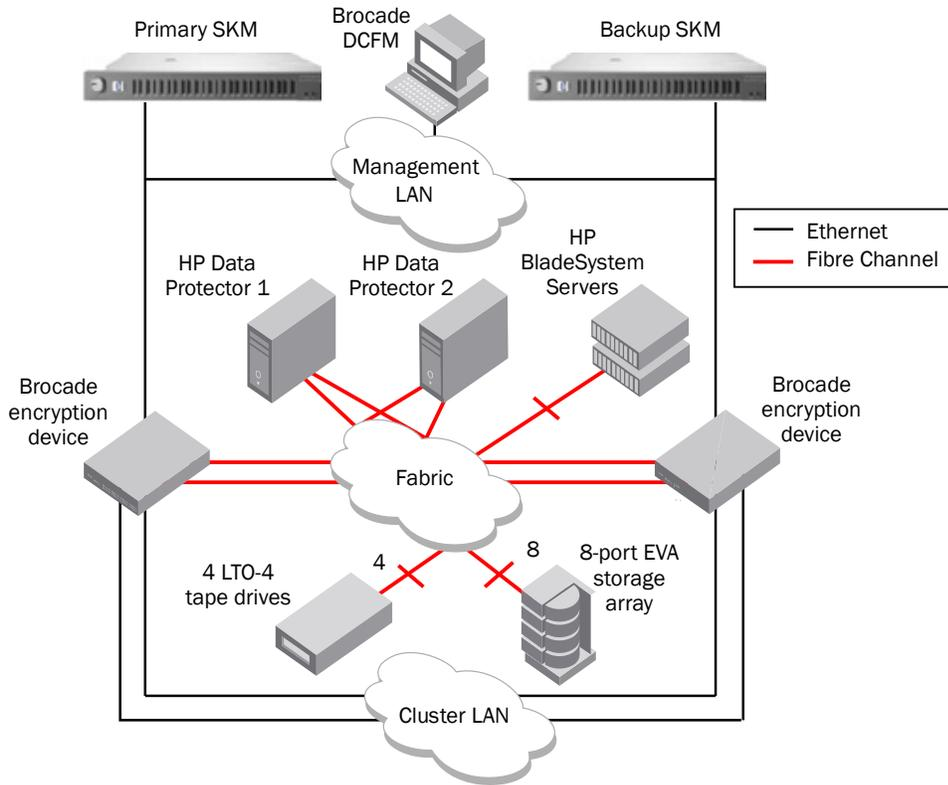

Figure 5. Upgraded encryption deployment
Figure 5 shows how the organization expanded their encryption solution with more LTO-4 tape drives, blade servers, EVA storage, and Brocade encryption devices. The security officer upgraded the solution to encrypt multiple applications and continued to use the installed base of servers, EVA storage, SKM appliances, Data Protector, and Brocade DCFM management software. The 4-port 4 Gigabit Fibre Channel (4GFC) EVA storage array with 2 terabytes (TB) of storage was upgraded to a 8-port 4GFC EVA array with 64 TB of storage by adding more controller cards and disk arrays. HP BladeSystem servers with server virtualization were used to create flexible deployment of servers that could access encrypted data through the Brocade encryption devices. The IT staff scaled their existing infrastructure with new hardware and software that integrated with their existing solutions.